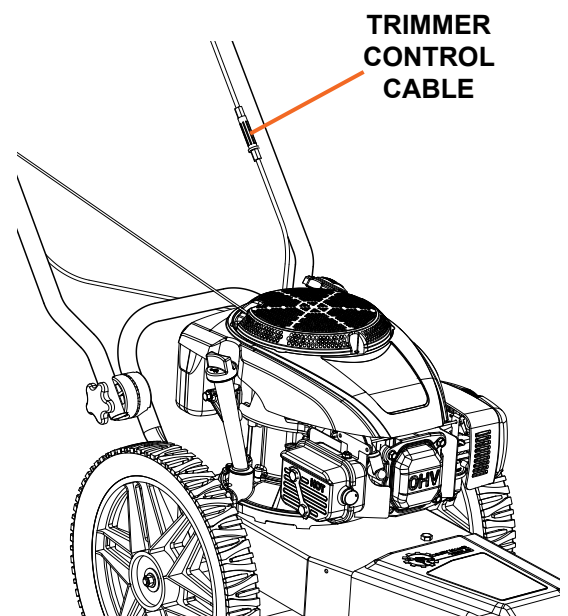

Figure 13
1. Locate the trim ball cable along the left handlebar. There is an in-line adjuster to change the tension on the cable (Figure 13).